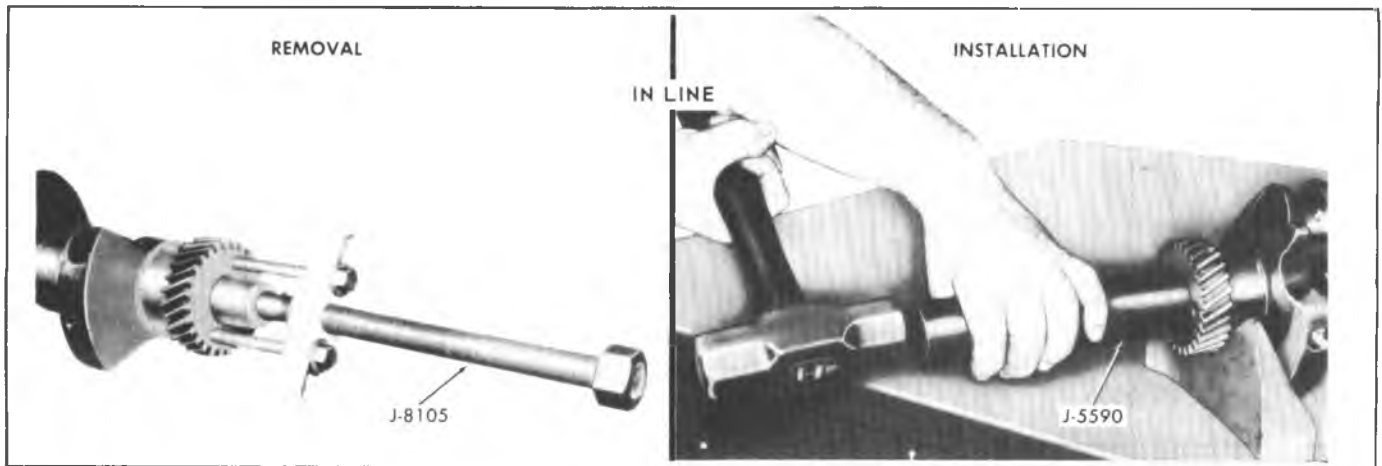

Fig. 6A1-47--Gear Replacement
5. Apply a thin coat of brush-on type oil sealing compound to block mating surface and corresponding surface of cap only (fig. 6A1-46). Do not allow sealer on crankshaft or seal.
Remove crankshaft gear using Tool J-8105 and install using Tool J-5590 (fig. 6A1-47).